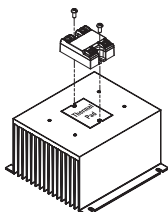

fig. 1 SSR mounted on HS053 heat sink (A)
- ◆ SSR mounting slots have a diameter of 0.2 in (5.0 mm). Two screws are needed to mount a single phase or dual SSR onto heat sink (See **fig. 1**). HS Series Heat Sinks include the necessary hardware to mount the relay(s) onto the heat sink. The number of hardware kits (HK1 or HKM1) included depends upon the number and type of SSRs possible to install on each heat sink. Recommended screw size is 8-32 (UNC standard) or M4 (metric) depending on the selected heat sinks. If you provide your own mounting screws choose screw length considering the mounting surface hole depth and SSR baseplate thickness.